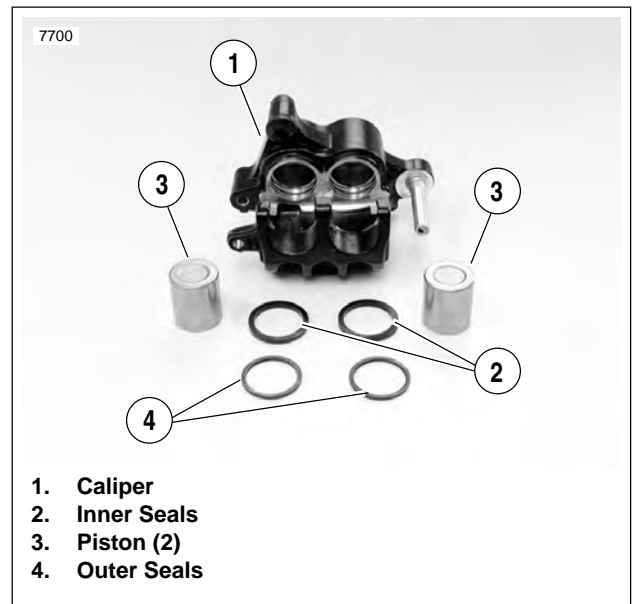

Figure 2-39. Caliper O-rings and Pistons
2. See Figure 2-39. Remove piston outer seals (4) and inner seals (2) from their respective grooves in caliper. Discard seals.
1. See Figure 2-39. Install pistons and O-rings.
- d. Install pistons (3) in each piston bore.